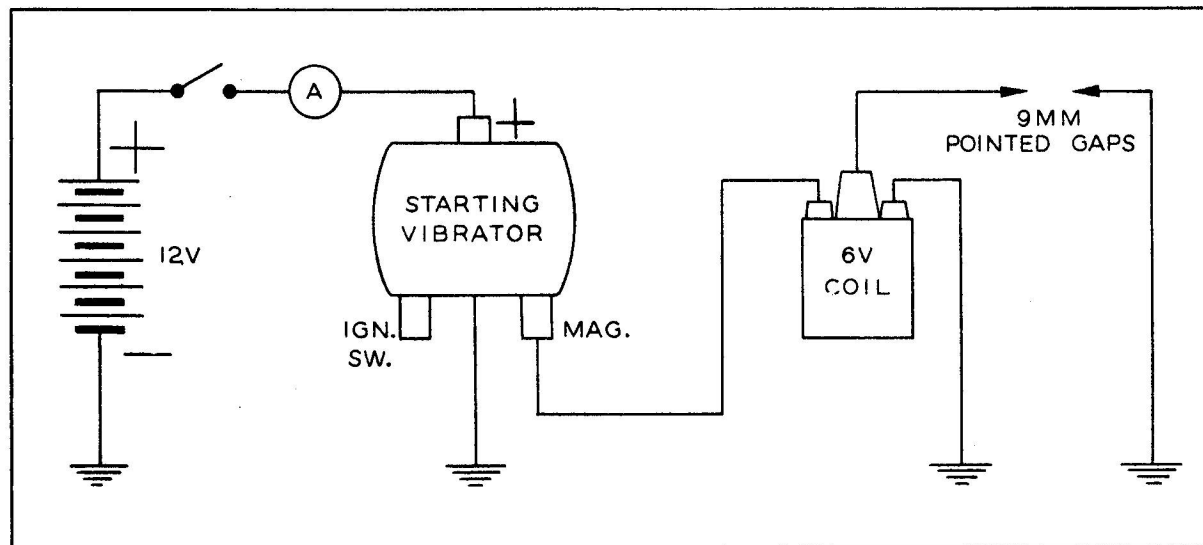
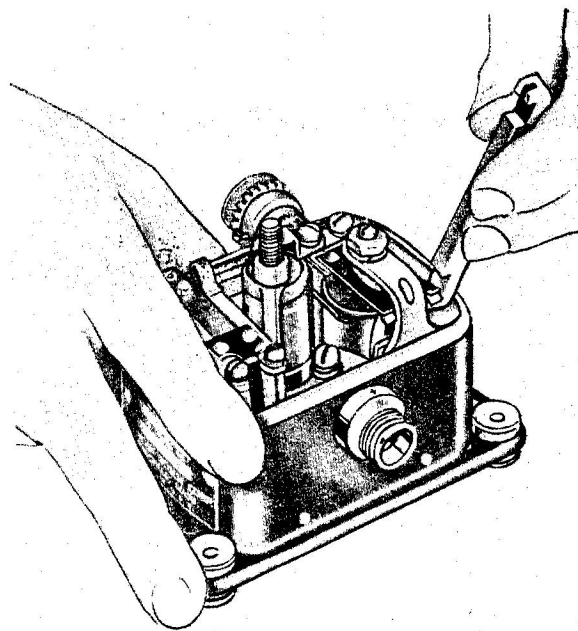

Figure 8 — Wiring Diagram — Test for Overhaul
Figure 9 — Adjustment of Vibrator Tension Arms
b. The above equipment should be wired as shown in figure 8.
a. With switch in position marked "1" in figure 8, drop voltage by means of potentiometer to nearly zero and then gradually increase voltage and note point of cut-in, or volts at which the relay points
a. Throw switch to position marked "2" in figure 8, and note ammeter reading. If other than 3.2 to 3.6 amperes on the 12 volt models or 2.6 to 3.1 amperes on the 24 volt models, adjust both vibrator tension arms (4) evenly, with American Bosch adjusting tool TSE 702 until proper ammeter readings are obtained. (See figure 9.) After this adjustment the unit must fire the 9 mm gap without missing.